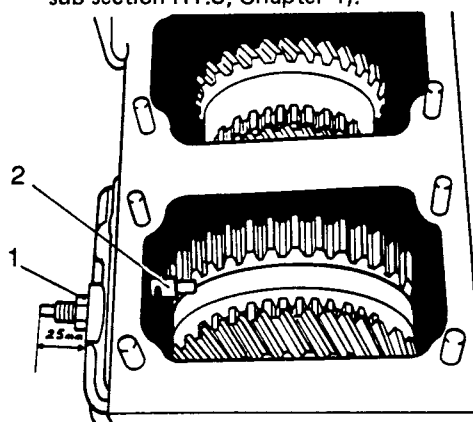

Fig H1.69
- (6) Refer to Fig H1.69. Unscrew the nut (1) and extract the lever threaded pivot.
- (7) Remove the intermediate lever (2) together with the pad.
- (8) Remove the main shaft rear bearing (see Sub-sub-section H1.3, Chapter 14).